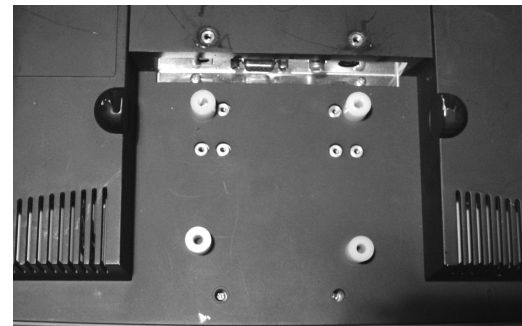

Figure 2. Recessed Applications Only
- For recessed mounting areas, place up to six Nylon spacers (90, 110 or 120), as appropriate, over the mounting holes in flat panel display (see Figure 2, Table 2 and table 3).
- Using Phillips head screws (60, 80 or 100), as appropriate, and spacers (90, 110 or 120), as appropriate, secure the adapter plate (20) to the flat panel display.